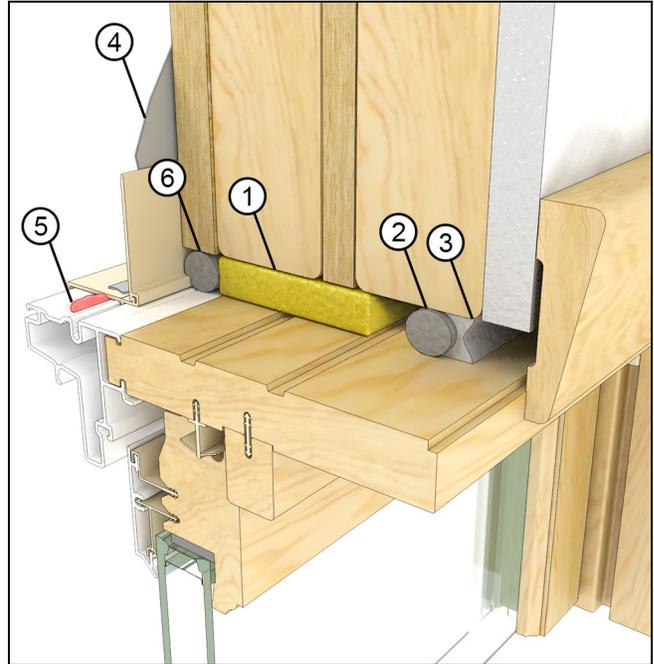

Figure 64
**2. Low Expansion Foam.** Install a backer rod at the exterior plane of the RO. Apply a low expansion/low compression closed cell foam in the cavity. Install a backer rod and sealant at the interior plane of the RO to create a continuous air seal. See Figure 64.